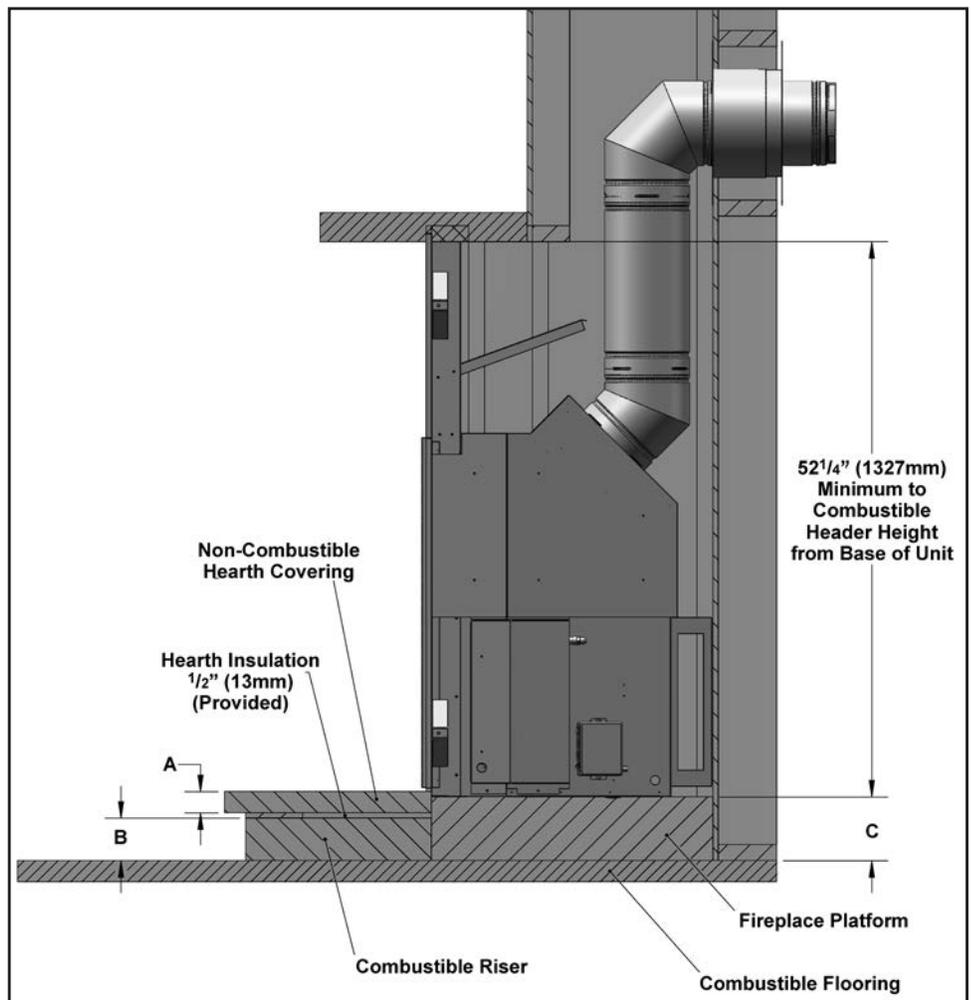

Figure 14. Typical Framing for a Raised Hearth - Detailed.
Figure 14 shows a raised hearth made of a wooden construction hearth riser (B), covered with the insulation board provided and then covered with non-combustible slate (A). The thickness of the riser (B) is 4" (102mm). The thickness of the slate (A) is 2" (52mm). $A+B=C$ which is 6" (152mm). In summary, the fireplace must be raised by the same thickness of any material added in front of the fireplace, with exception of the 1/2" (13mm) Hearth Insulation Board that was provided with the unit.